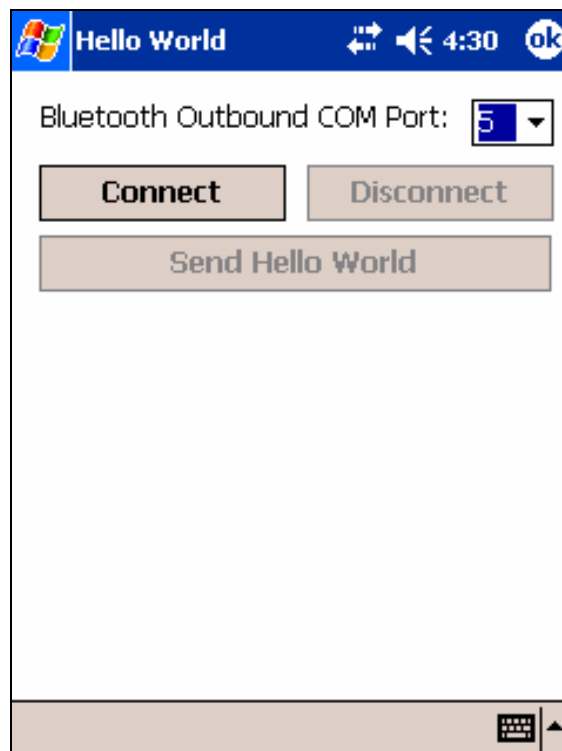

Figure 12: Hello World Pocket PC Application
12. Run the **Hello World** Application (Figure 12).